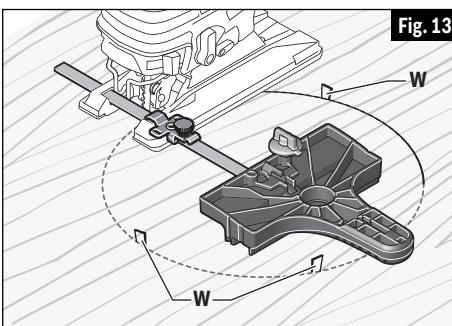

Fig. 13
- Place small wedges **W** in the cut as shown in Fig. 13, to keep the inner circle from spreading when near the end of the cut.